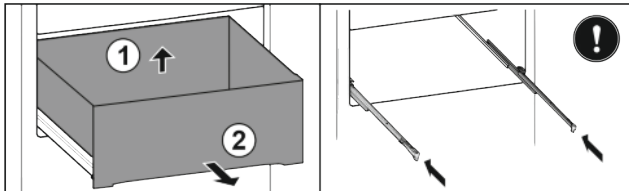

Fig. 34*
- ▶ Lift up the drawer at the back Fig. 34 (1).*
- ▶ Take off to the front Fig. 34 (2).*